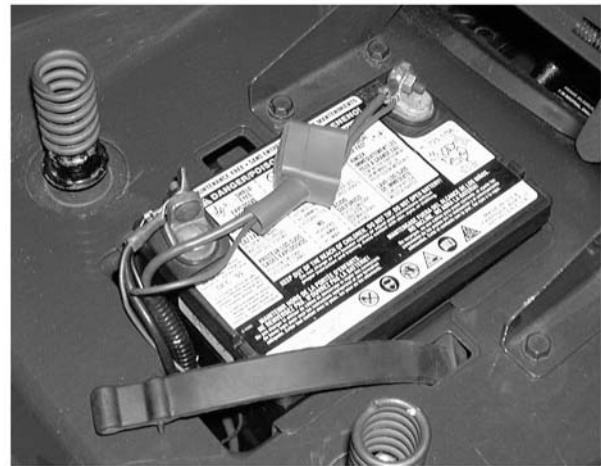

Figure 8-52.
24. Install the pair of red cables to the positive battery post with the original hardware, using two 7/16" wrenches. See Figure 8-52.